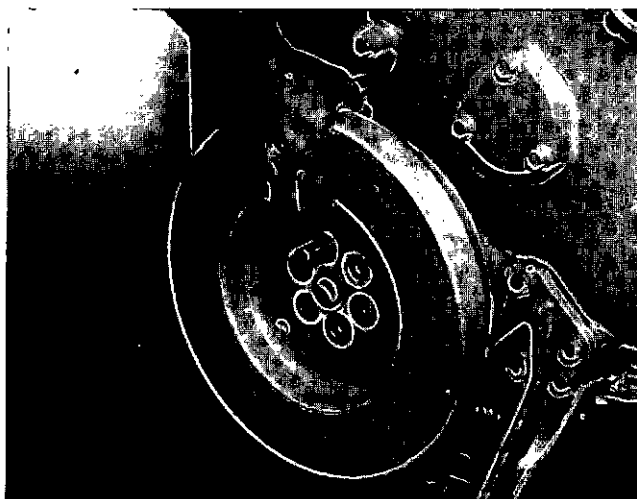

Fig. 0-46. Remove The Vibration Damper and Pulley.
2. Remove the vibration damper and pulley, Fig. 0-46.